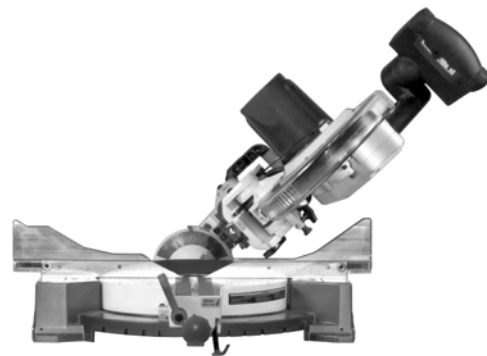

Figure 13
2. Loosen the *bevel lock handle* (A, Fig. 8) and tilt the cutting arm completely to the right (Figure 13).